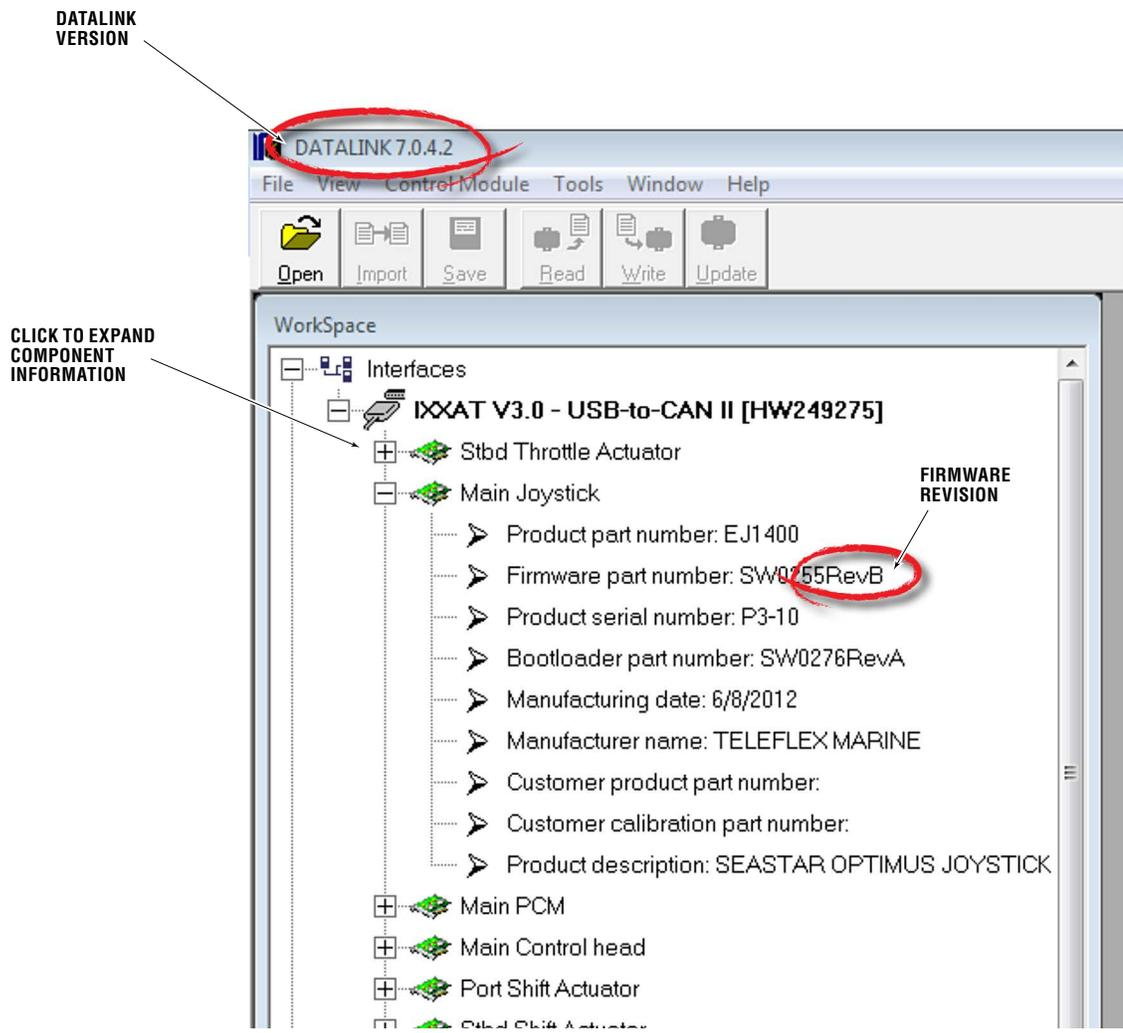

Figure D-2. Datalink workspace.
2. In the 'Interfaces' section in Datalink, click on the  box to expand the component information. See figure D-2. (In an i7X00 system you will see only the Control Head(s) and Actuators in the component list.)